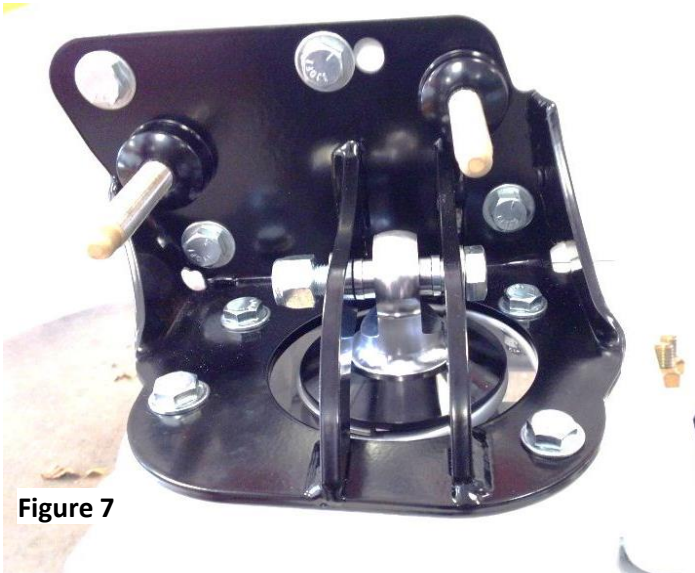

Figure 7
5. Install the assembled shocks up through the spring pocket and install the 1/2" x 2 1/2" blots, washers and nuts. P/N 9033-430 spacer will need to be installed on each side of the spherical bearing as the shock is bolted into place. See **Figure 7**. **Installation Tip:** The upper eyelet of the shock can be unscrewed from the piston rod and removed to install the spring and spring cap. Once reassembled, retighten the jam nut against the bottom of the loop.